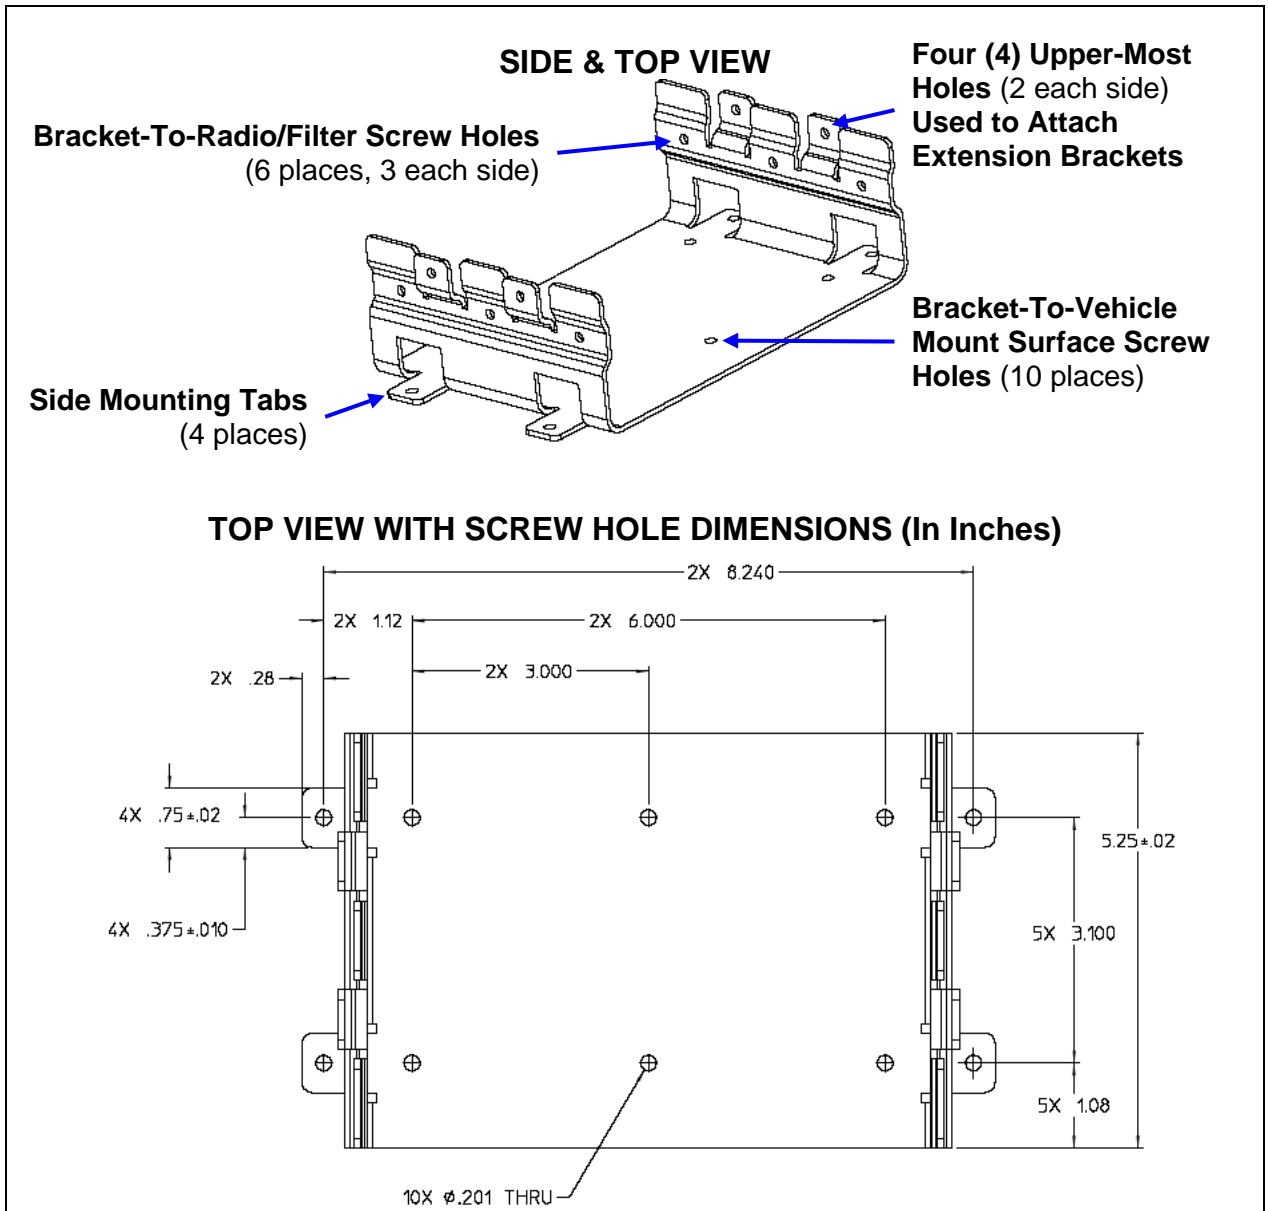

Figure 6-1: Base Bracket (Two Required Per VRS7000 Installation)
1. Select a location for each Base Bracket—one location for the VRMS's Base Bracket and one location for the VRBS's Base Bracket. As previously stated, both brackets must be mounted within approximately twelve (12) inches of each other so the section of the cable which interconnects the two radios will have sufficient length.
2. Using each Base Bracket (Item 1 in Table 4-4) as a template and/or the dimensional information shown in Figure 6-1, mark and drill mounting holes into the mounting surface for each bracket. At least six (6) screws per bracket are recommended for proper installation: Four (4) in the screw holes of a bracket's side tabs and two (2) in its center-most screw holes. If the installation prevents the installation of six screws, a minimum of four screws installed in the side tabs' holes is required, per bracket.